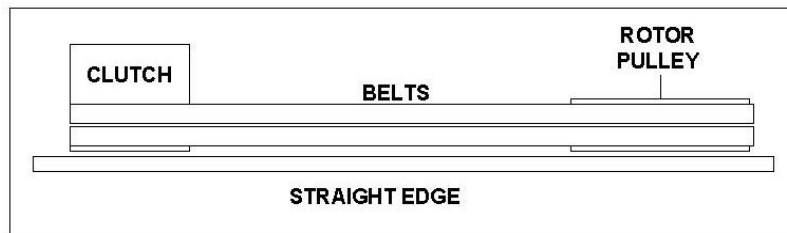

Figure 2
- Check alignment of the clutch (item #27, pg 29) with the drive pulley (item #21, pg 29) by placing a straightedge across both faces as shown in figure 2. If adjustment is necessary, correct alignment by moving rotor pulley in or out on the rotor shaft. **Do not make adjustment by moving the clutch on the engine shaft.**